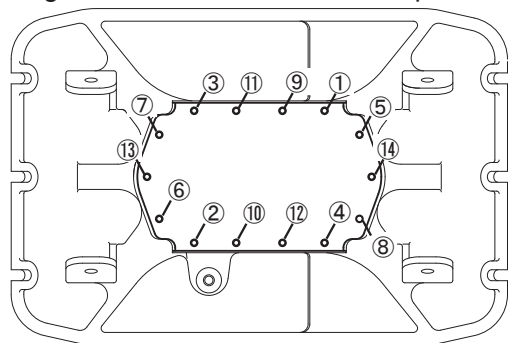

Fig.8-5
- c. Degrease the contact surface between the vibrator case and vibrator top cover, then after assembling O-ring to the vibrator case, assemble them by tightening bolts. (Fig.8-5)